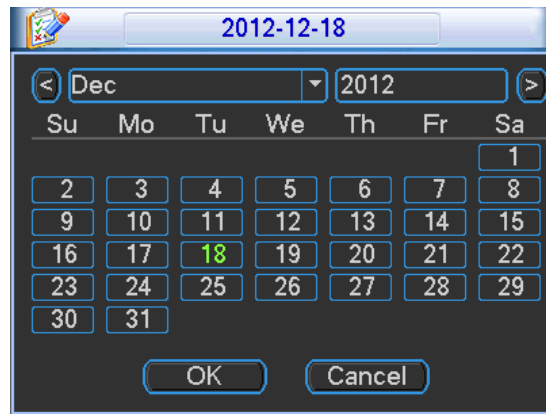

Figure 5-43
- b) Check the box here to enable Holiday function. Click Holiday setting, you can see an interface shown as in Figure 5-43. Here you can set holiday date. Please go to the Holidays Period interface to set the holiday date record setup.